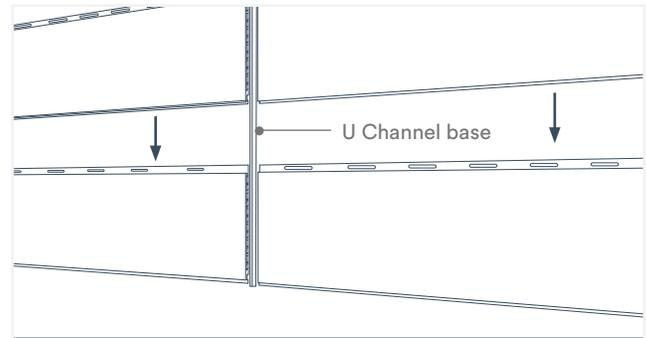

Fig. 18
5. If your wall measurement is longer than the panel lengths, the panels must be joined in the middle using an H Channel Snap-in Trim kit (Fig. 18). Refer to the Joining Panels portion of the Trim Applications section of this document for details.